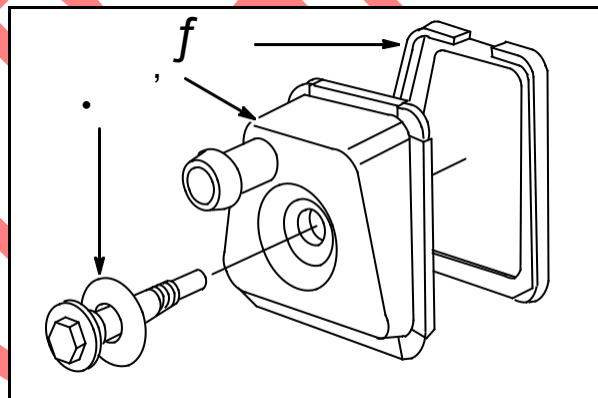

Fig. 8
Place breather (2) on gasket (3), **Fig. 8**.